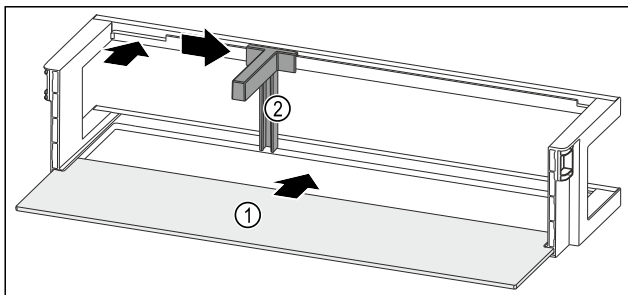

Fig. 163 Door rack with shelf
- ▶ Push the shelf Fig. 163 (1) into the side recesses.
- ▶ Insert the bottle holder Fig. 163 (2) in the recess.
- ▶ Push the bottle holder Fig. 163 (2) to the desired position to the side.